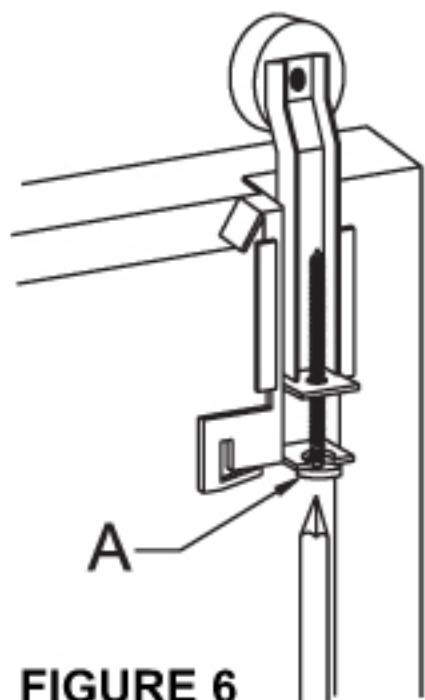

FIGURE 6
use Phillips screwdriver for vertical adjustment at (A), plumbing left door to left jamb, right door to right jamb (Figure 6). (Screw is self-locking in any position.)